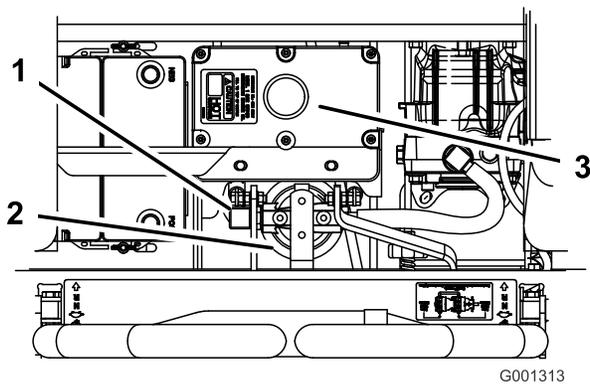

Figure 79
4. Remove the right hydraulic line that comes into the adapter (Figure 79).
6. Install the right hydraulic line to the adapter (Figure 79).